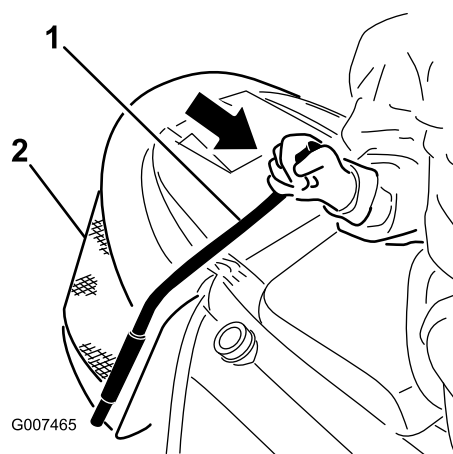

Figure 15
2. Pull the collector rod forward to tilt the collection bin (Figure 15).